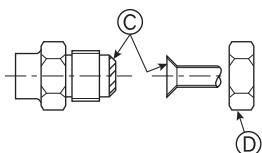

Fig. 4-8
Ⓐ (Fig. 4-8)
Ⓑ (Fig. 4-8)
4.4. Rohranschlüsse (Fig. 4-8)